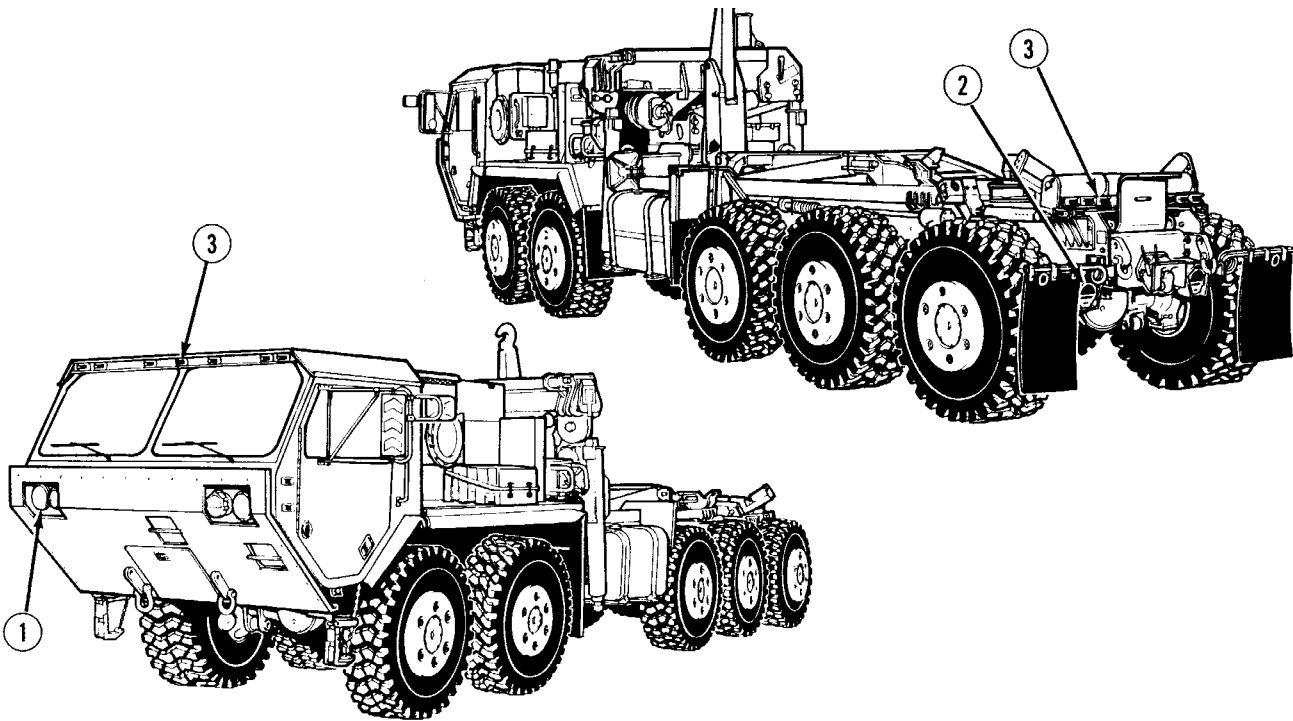

Figure 1-13. Service Lighting System
c. *Service Lighting.* The service lighting system (Figure 1-13.) includes the headlights (1), tail lights (2) and clearance marker lights (3). They are energized by pressing the blackout light selector switch to the OFF position. The stop lights, clearance marker lights, panel lights, turn signals and emergency flashers are then controlled by separate switches located in the cab.